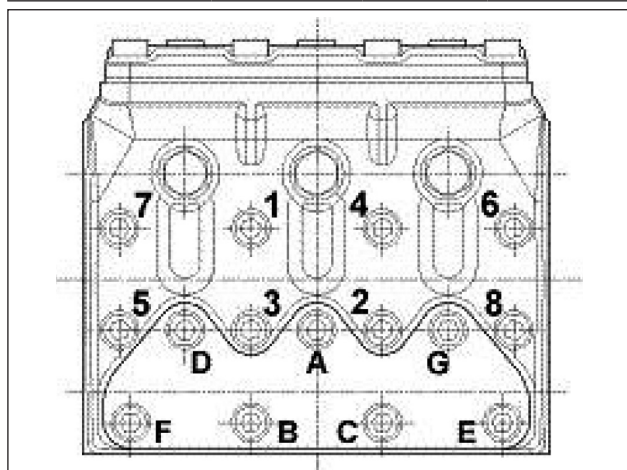

Fig. 24
- \*\* The head fixing screws exploded view pos. 39 must be tightened with a torque wrench, lubricating the threaded shank, respecting the order shown in the diagram in Fig. 24.
- \*\*\* The valve cover fixing screws exploded view pos. 40 must be tightened with a torque wrench, lubricating the threaded shank, respecting the order shown in the diagram in Fig. 24.